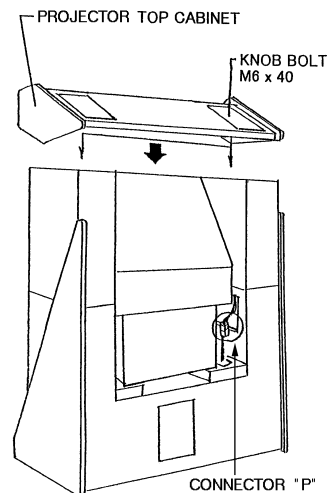
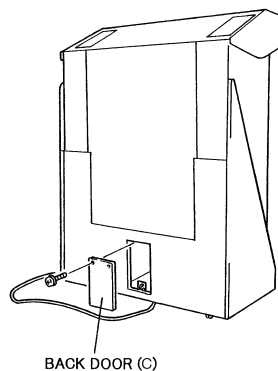

Fig. 23
Fig. 24
3. Mount the top cabinet on the main cabinet, and fix them by using the knobbolts (8pcs) (Package No. 22/23). Refer to Fig. 23
4. Replace the back door (B).
5. Connect the connector P. Refer to Fig. 23.
6. Replace the back door (A).
7. Remove the back door (C) as indicated in Fig. 24.